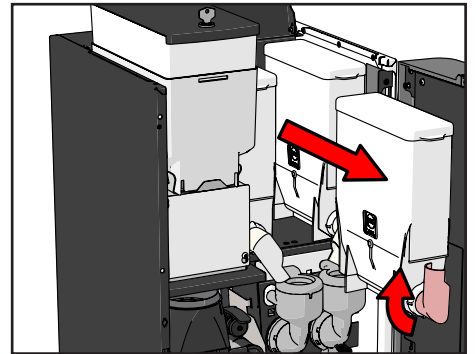

Figure 49. Remove the canisters
4. Turn the canister spouts up, and remove the canisters one by one (see Figure 49).